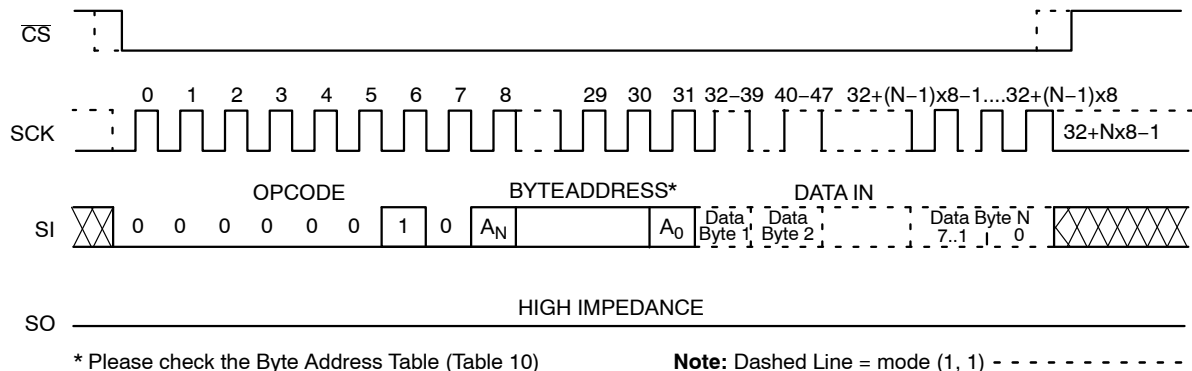

Figure 6. Page WRITE Timing
After sending the first data byte to the CAT25M02, the host may continue sending data, up to a total of 256 bytes, according to timing shown in Figure 6. After each data byte, the lower order address bits are automatically incremented, while the higher order address bits (page address) remain unchanged. If during this process the end of page is exceeded, then loading will "roll over" to the first byte in the page, thus possibly overwriting previously loaded data.
The additional 256-byte Identification Page (IP) can be written with user data using the same Write commands sequence as used for Page Write to the main memory array (Figure 6). **The IPL bit from the Status Register must be set (IPL = 1) using the WRSR instruction, before attempting to write to the IP. Prior to any write to the Identification Page, the Write Enable Latch must be set (WEL=1) by sending the WREN instruction.**